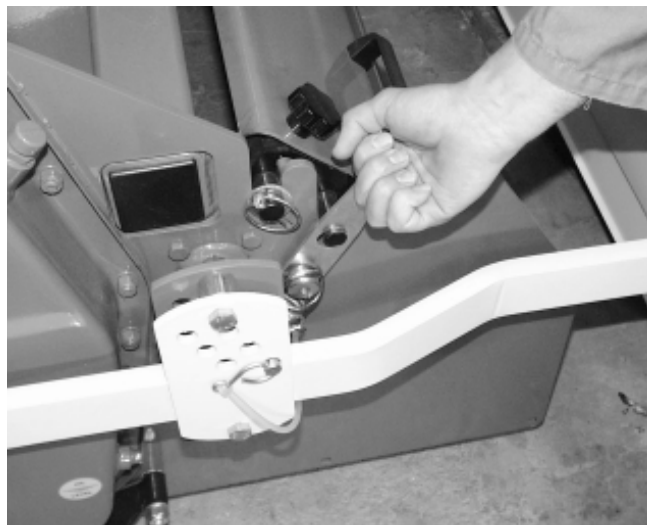

fig. 43
- If unable to rotate the rotor, remove the leveling cover by unlocking fasteners located on the right and left handsides of the cover (fig. 43).